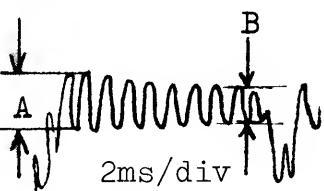

Fig. 2
2. Pluck 2nd string at open. Adjust VR13 for A:B = 2:1. Fig. 2.